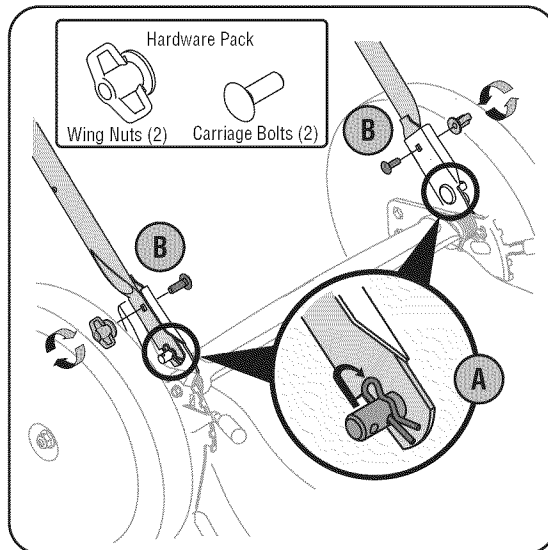

Figure 3-2
- Remove hairpin clip from this hole. Using a pair of pliers, insert hairpin clip into the other hole on the weld pin. Repeat on other side. See Figure 3-2.